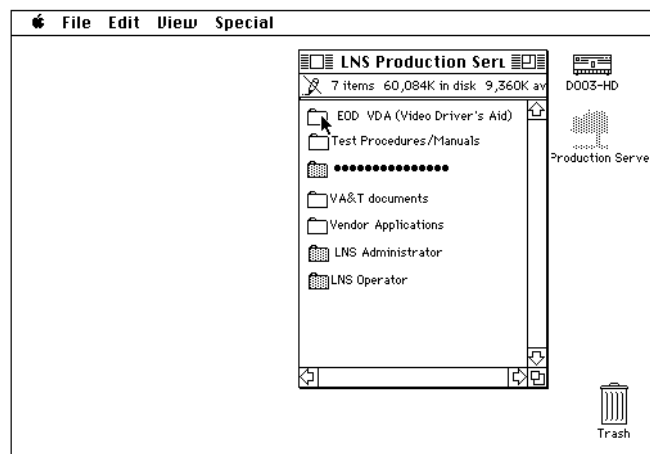

Figure 4
- 8.0 Position the mouse pointer on the “VDA” folder and double click to open it. See Figure 4.